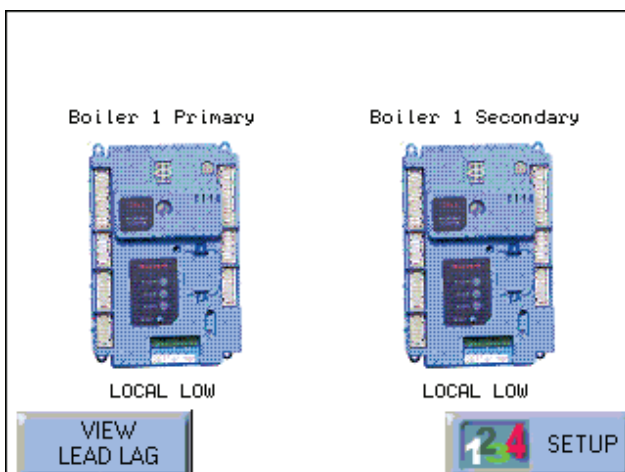

Fig. 70 – Home Screen
1. Let's start by setting the Flap Valve ID for the Primary control for Boiler 1. To do this, start at the Home screen (Fig. 70). (To reach the Home screen, press the Home icon in the upper left corner of any screen.)